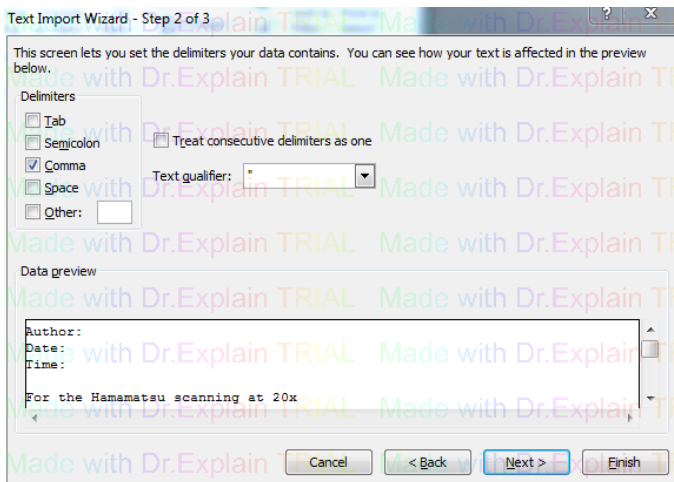

Figure 1
6. Find "**Delimiters**", and select "**Comma**" in this case (Figure 1)